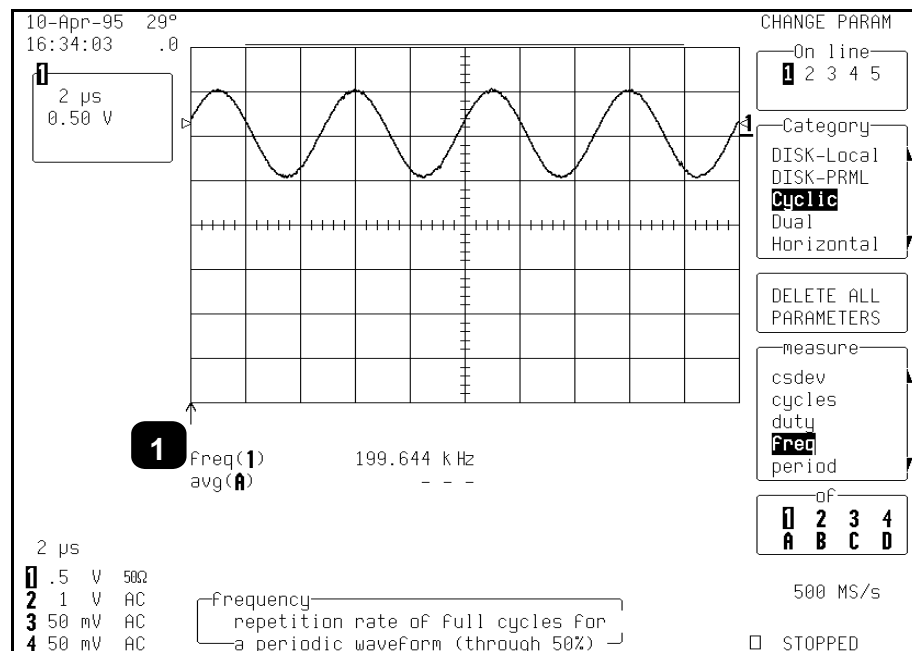

Figure 2.5
Histograms are created by graphing a series of waveform parameter measurements. The first step is to define the waveform parameter to be histogrammed. *Figure 2.5* shows a screen display accompanying the selection of a frequency (freq) parameter measurement (*Annotation ❶*) for a sine waveform on Channel 1.